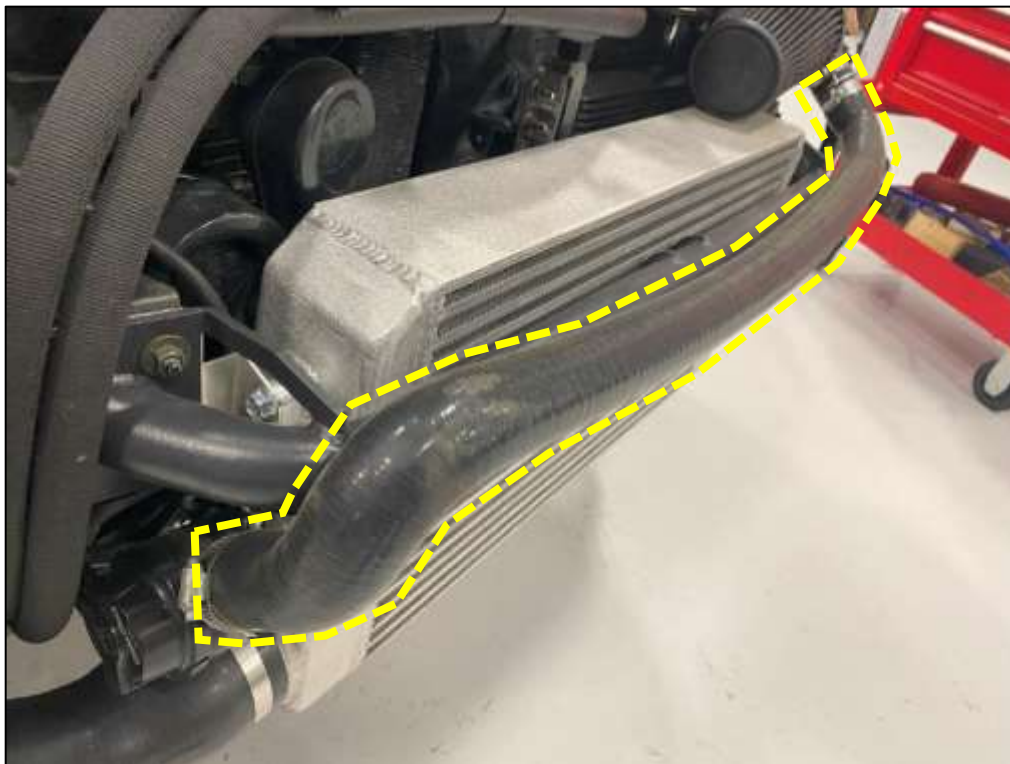

Figure 87
7. Run the other end of the Recirculation Pipe across the Intercooler and secure with another Clamp to the Turbosmart RacePort installed on the Intercooler. The G35 will have the Recirculation Pipe run **IN FRONT** of the Intercooler, the 350Z Recirculation Pipe will run **BEHIND** the Intercooler. *Figure 87*.